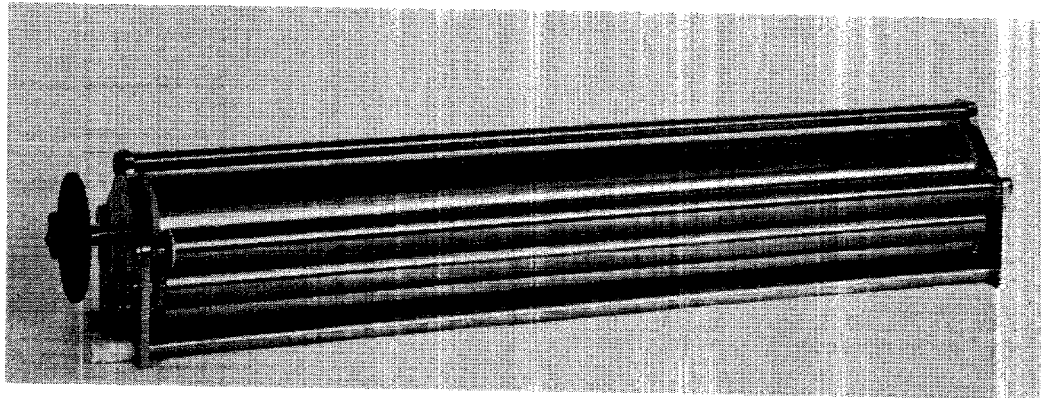

Figure 5. Crossover Assembly
1.2.6.3 Crossover Assemblies. As the product reaches the top of the rack it enters the crossover assembly (similar in design to the turnaround assembly), which conveys it to the downward vertical path of the next rack. There are 13 crossover assemblies: one for the entrance to the first rack, one between each pair of the 12 racks, and one which incorporates a squeegee roller at the exit of the last rack. All, except the entrance and exit units, are identical to the one pictured in Figure 5.